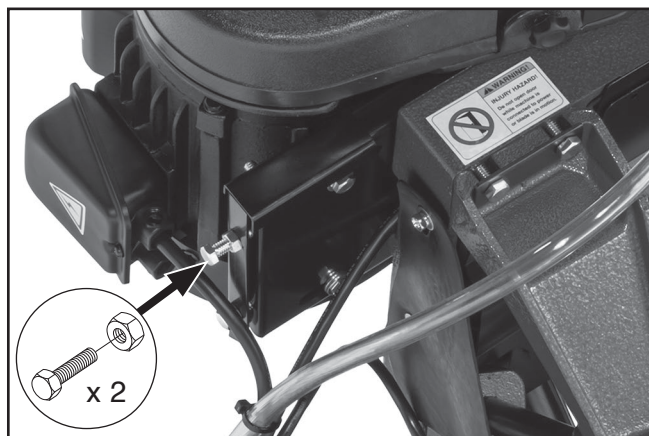

Figure 61. Location of motor mount adjustment hardware.
5. Loosen hex nuts on end of motor mount (see **Figure 61**), then tighten corresponding adjustment hex bolts to push motor toward wheel pulley and slacken V-belt.
8. While holding hex bolts shown in **Figure 61**, adjust hex nuts against motor mount to secure.